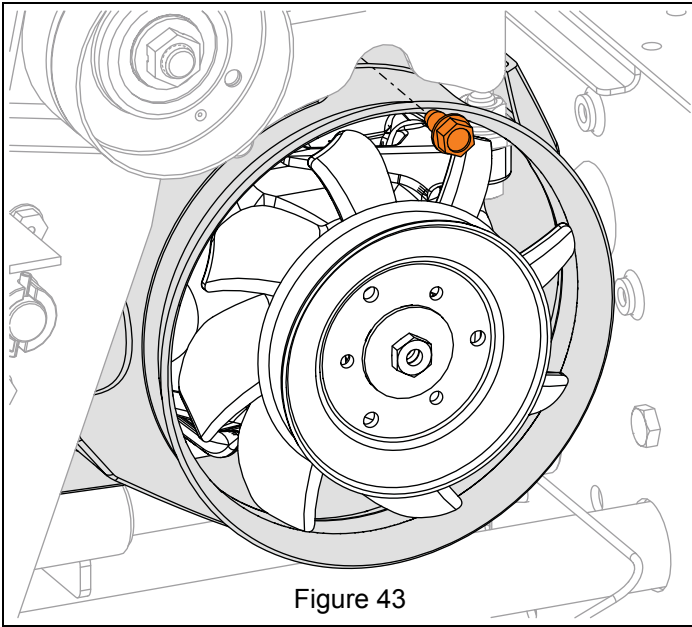

Figure 43
12. Remove hardware retaining transaxle shroud and remove shroud. See Figure 43.